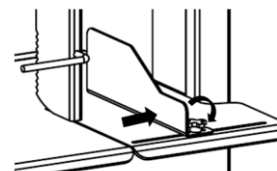

FIG. 5
1.- Select the desired thickness to cut, using the gauge plate assy (11) and turn the knob to gauge plate assy (fig 5).
2.- Up de the Pusher and put the product on the table (8)